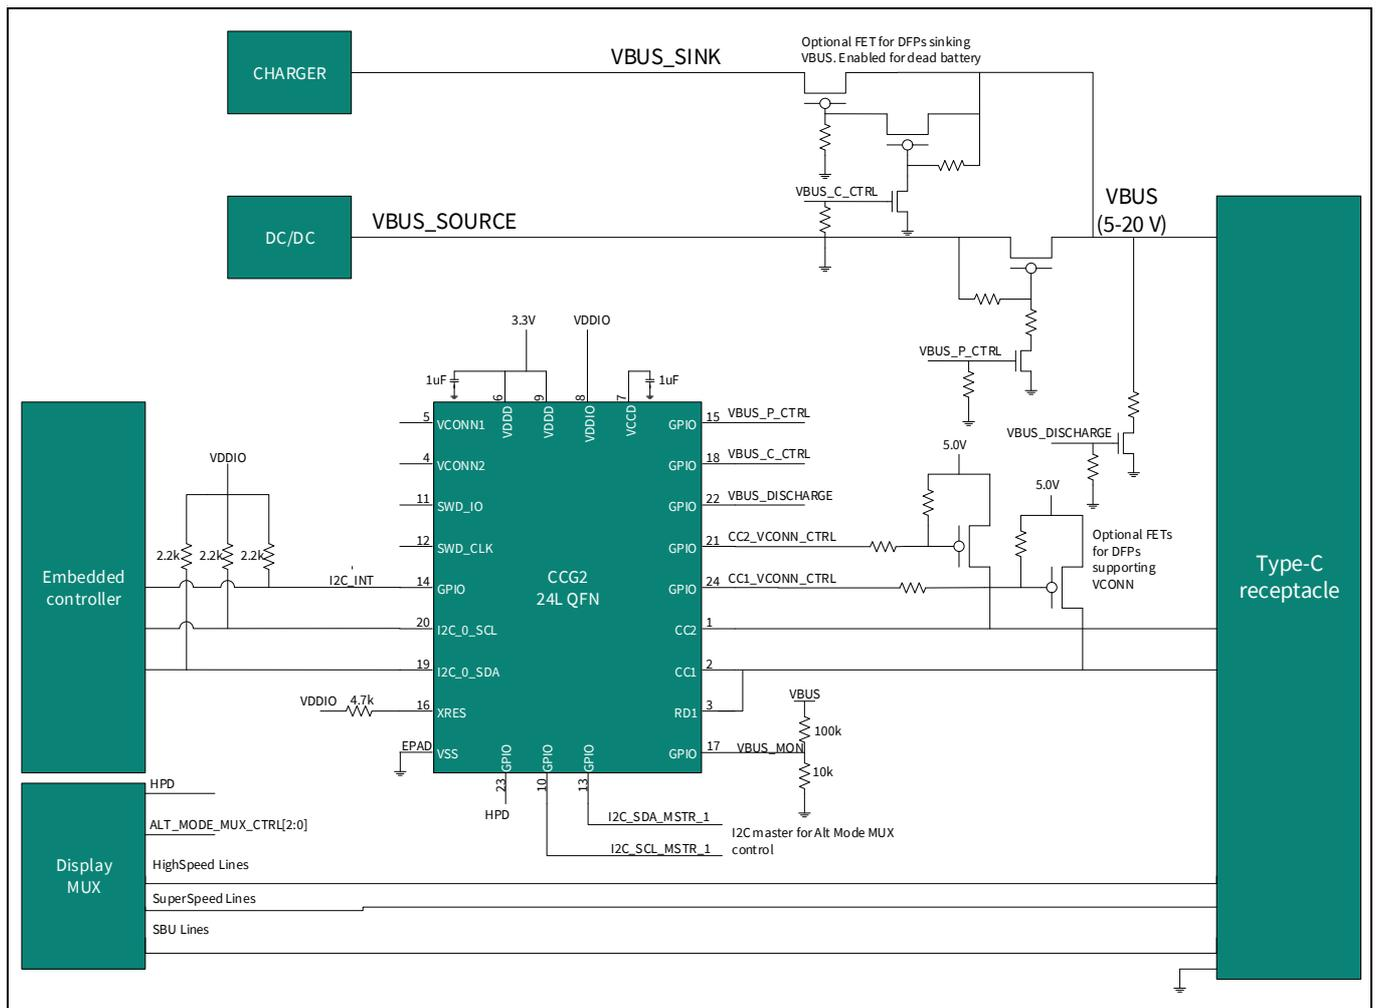

**Figure 13 Upstream facing port (UFP) application – Tablet with a Type-C port**
**Figure 13** shows a CCG2 device being used in a UFP application (tablet with a Type-C port) only as a power consumer.